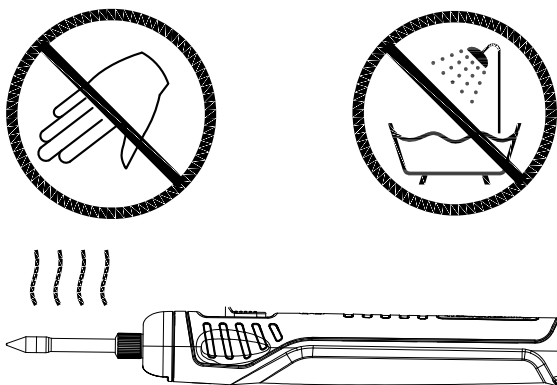

Fig. 4 - WARNING - hot tip when in use, do not touch, keep Soldering Iron clean and away from oils and lubricants. Do not immerse Soldering Iron in water
- Indoor use. Do not expose Soldering Iron to rain or wet conditions. Water entering a Soldering Iron will increase the risk of electric shock (Fig. 4)
- Keep handles and grasping surfaces dry, clean and free from oil and grease. (Fig. 4) Slippery handles and grasping surfaces do not allow for safe handling and control of the Soldering Iron in unexpected situations.
- Keep hands clear of the tip serious burns can occur if skin contacts tip (Fig. 4)
- To reduce the risk of fire, personal injury, and product damage due to a short circuit, never immerse your Soldering Iron, battery pack or charger in fluid or allow a fluid to flow inside them. Corrosive or conductive fluids, such as seawater, certain industrial chemicals, and bleach or bleach-containing products, etc., can cause a short circuit. (Fig. 4)
- To reduce the risk of injury, always wear safety goggles or glasses with side shields. Serious burns could occur if skin contacts a hot tip.(Fig. 4)